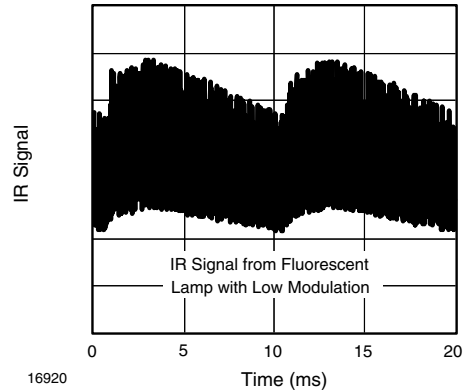
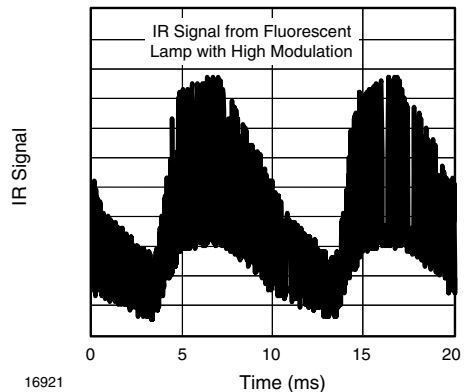

Fig. 14 - IR Signal from Fluorescent Lamp with Low Modulation
Fig. 15 - IR Signal from Fluorescent Lamp with High Modulation
- Modulated IR signals from common fluorescent lamps (example of noise pattern is shown in figure 14 or figure 15)